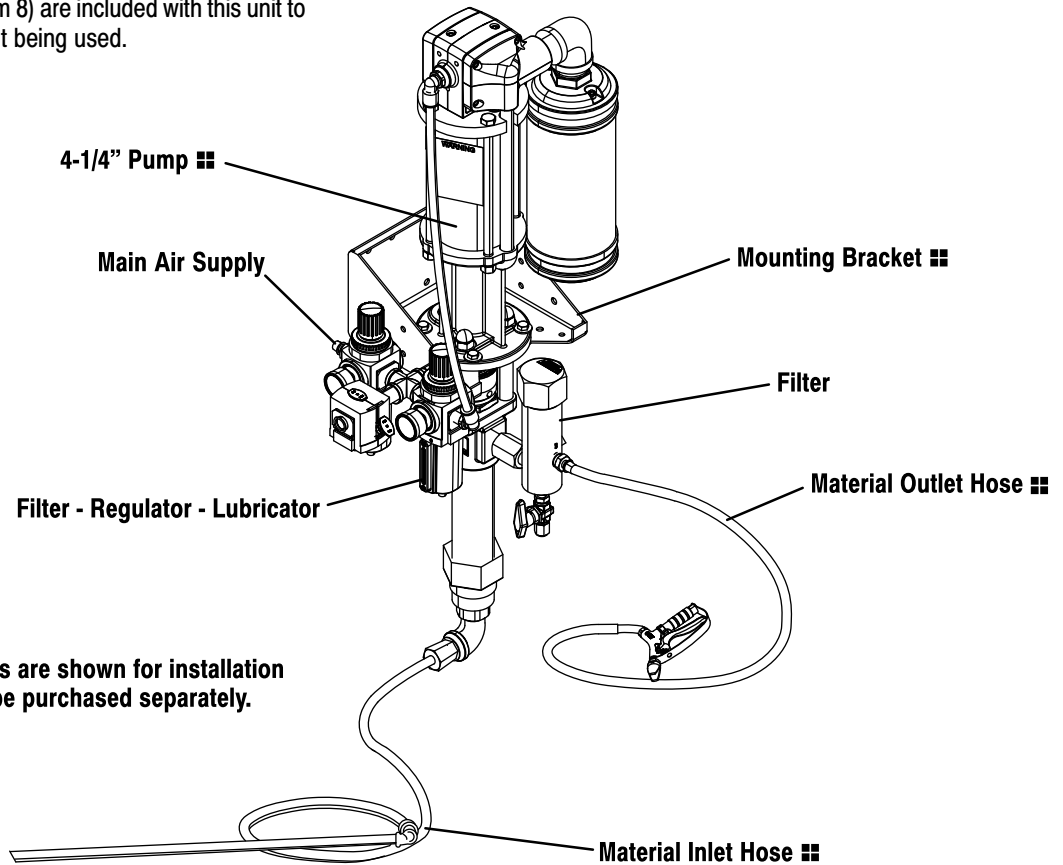

FIGURE 2
2. Refer to typical installation (see figure 2).
4. Two 1/2 - 14 N.P.T. pipe plugs (item 8) are included with this unit to plug an inlet and an outlet port not being used.